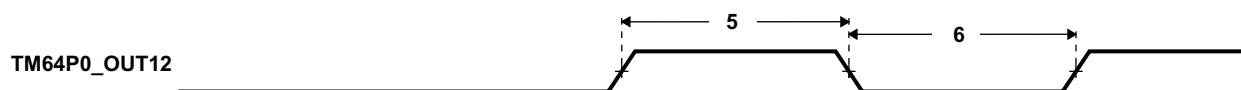

**Figure 5-82. Timer Timing**
**Table 5-131. Timing Requirements for Timer Input(1) (2) (see Figure 5-82)**